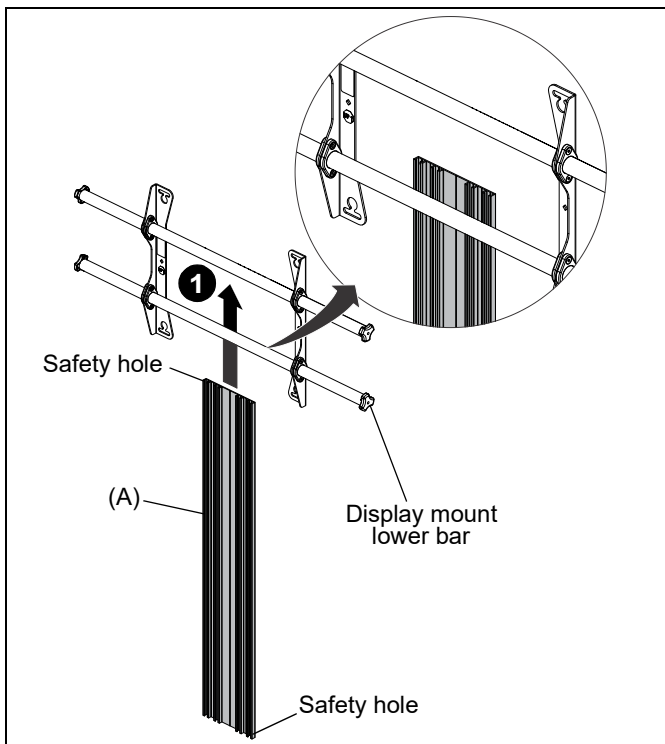

Figure 2
1. Slide the upright extrusion (A) behind the lower horizontal bar on the display mount. (See Figure 2)